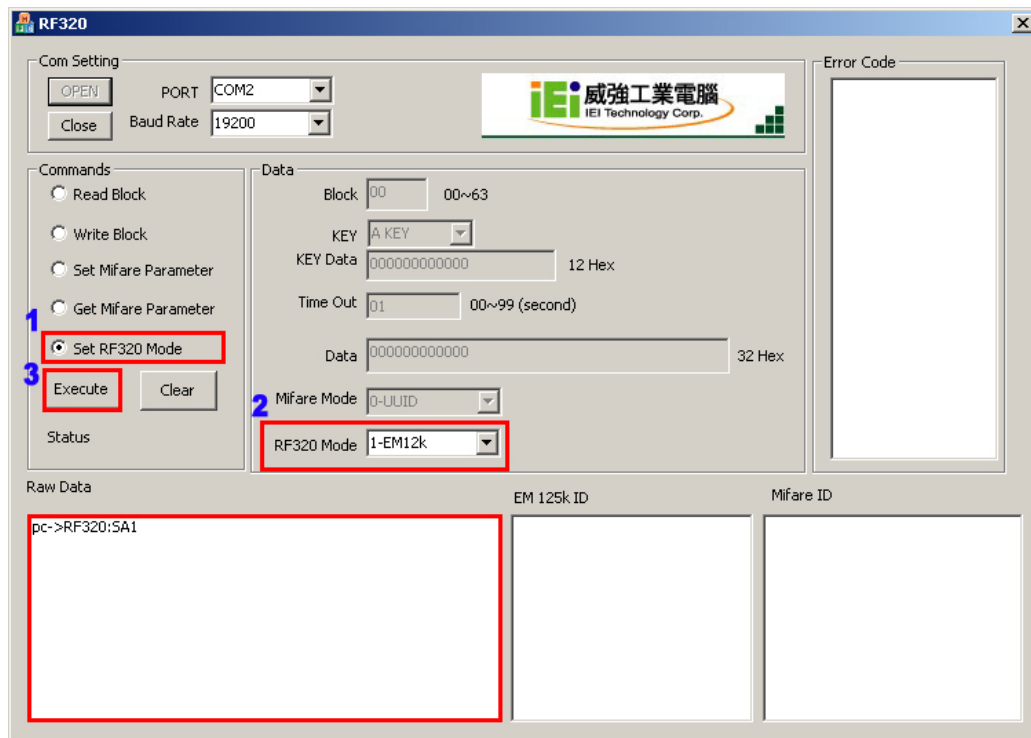

Figure 5-10: Set RF-320 Mode
Step 1: Select **Set RF320 Mode** in the command area (**Figure 5-10**).
Step 3: Click the **Execute** button to execute the command through the selected serial port (**Figure 5-10**). The raw data of this command shows in the Raw Data area in the format listed in **Table 5-10** and **Table 5-11**.